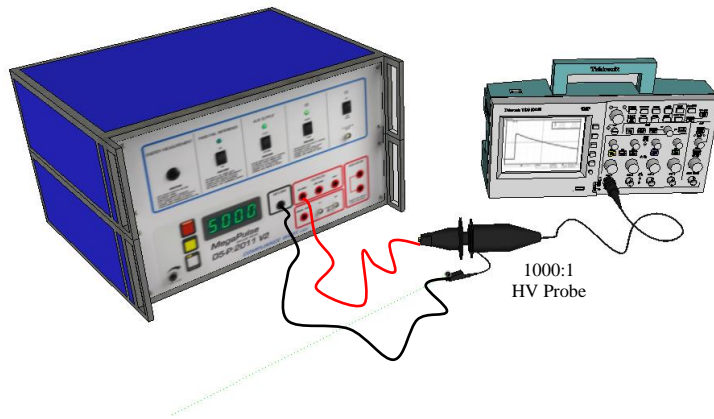

Figure 4 Pulse Capture Setup
12. Connect the ends of the test leads to the measuring instrument. See Figure 4 for an example.